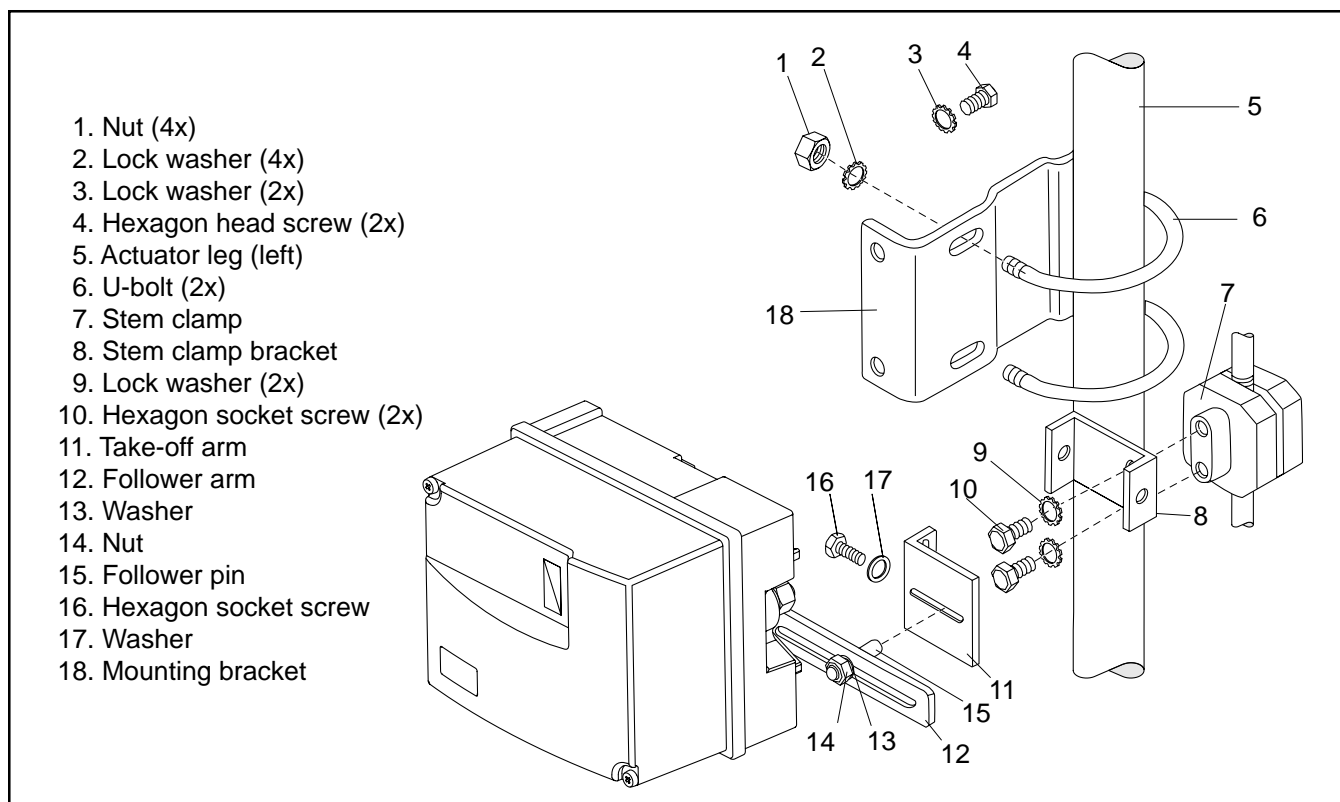

Figure 6: Mounting on a Rod Actuator (NAMUR)
The mounting of rod actuators (according to NAMUR) is described in Figure 6.
Mounting of the Logix 500 Series Positioner on a Linear Pneumatic Actuator (NAMUR) (Figure 6)
3. Attach the positioner to the pre-assembled mounting bracket and fasten it with two hexagon head screws (4) and two lock washers (3). Check that the follower pin (15) is inserted in the slot of the take-off arm (11) and the follower arm (12) is positioned at a right angle to the outer edge of the positioner.
NOTE: A slight unsymmetrical mounting increases the linearity deviation but does not affect the performance of the device. Depending on the actuator size and stroke it may be necessary to flip the take-off arm (Figure 6) by 180° and attach it to the opposite side of the stem clamp bracket (8).